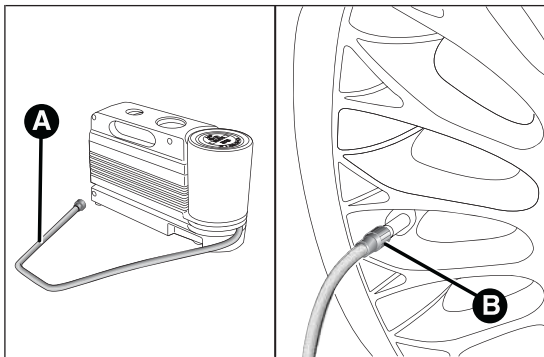

fig. 124
- Pull up the handbrake.** Unscrew the tyre valve cap, take out the flexible filler pipe A fig. 124 and tighten the ring nut B on the tyre valve;